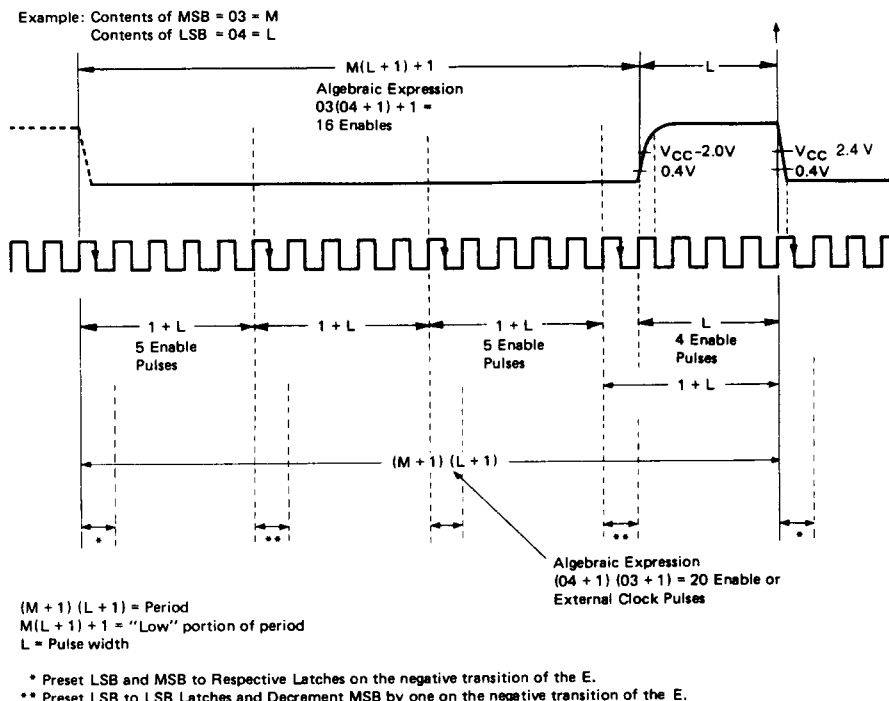

Figure 9 Timer Output Waveform Example
In the dual 8-bit mode ($CR\bar{X}2 = "1"$) [Refer to the example in Fig. 9] the MSB decrements once for every full countdown of the LSB + 1. When the LSB = "0", the MSB is unchanged; on the next clock pulse the LSB is reset to the count in the LSB Latches and the MSB is decremented by 1 (one). The output, if enabled, remains "Low" during and after initialization and will remain "Low" until the counter MSB is all "0"s. The output will go "High" at the beginning of the next clock pulse. The output remains "High" until both the LSB and MSB of the counter are all "0"s. At the beginning of the next clock pulse the defined Time Out (TO) will occur and the output will go "Low". In the Dual 8-bit mode the period of the output of the example in Fig. 9 would span 20 clock pulses as opposed to the 1546 clock pulses using the Normal 16-bit mode.